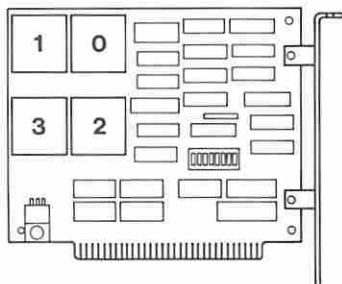

Figure 7. 256KB Memory Expansion Option
- Refer to Figure 7 and find the failing module (identified by the first character of the error code).